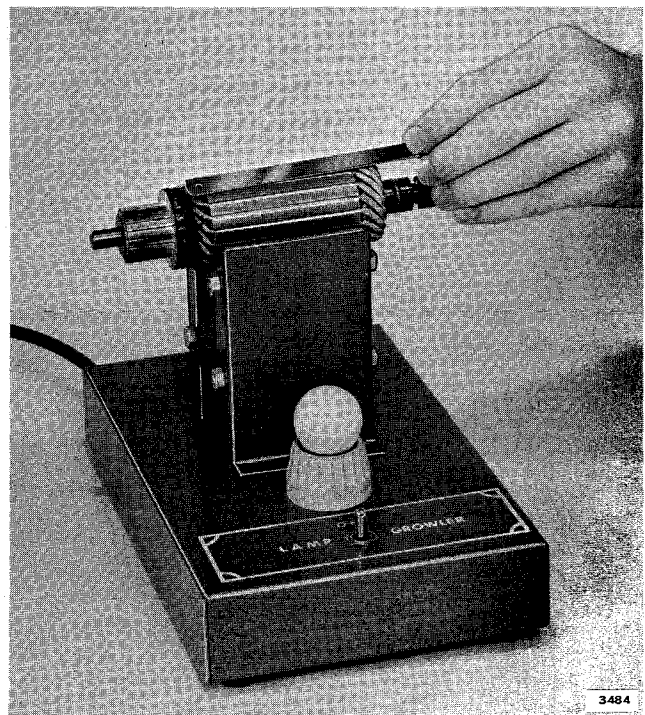
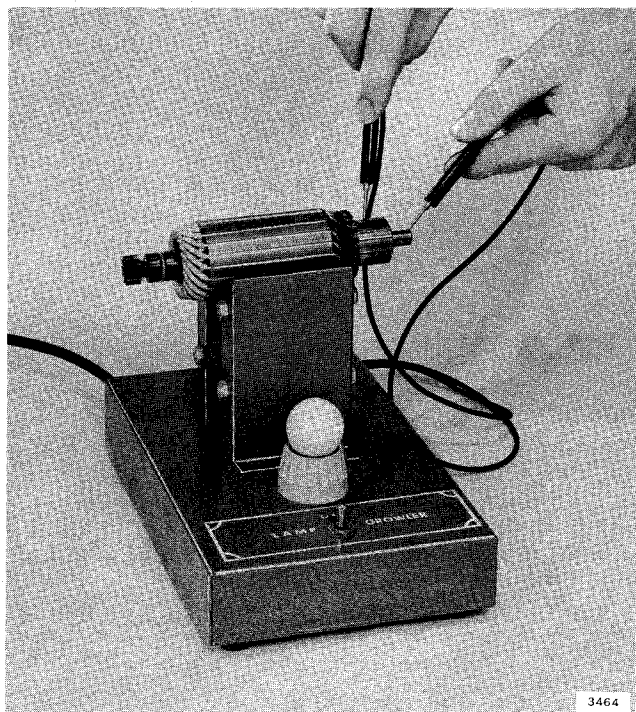

Figure 7-9. Checking Armature on Growler
Figure 7-10. Checking Armature for Grounding
- c. Check the armature on a growler for shorted turns. See Figure 7-9. Check armature for grounding by using a test light or meter. See Figure 7-10. Inspect armature insulation for indications of overheating or damaged windings. Clean off any deposits of carbon or foreign matter which may contribute to later failure of the windings.